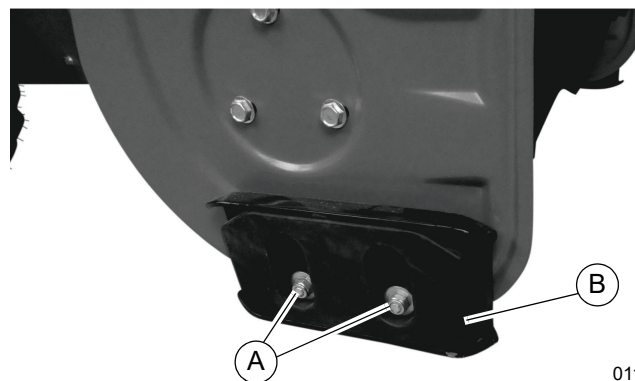

Figure 3-6. Adjusting Skid Plates
1. See Figure 3-6. Loosen jam nuts (A) using a 1/2 in wrench.